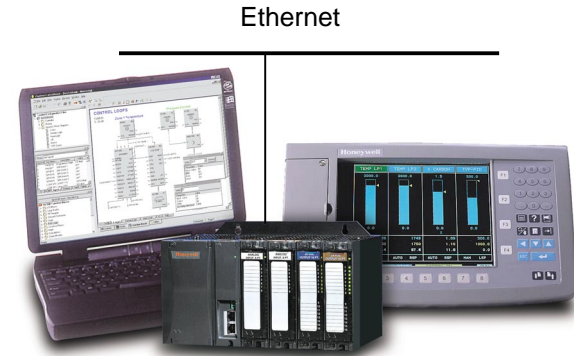

Figure 2: HC900 Hybrid Controller, Model 1042 OI and Hybrid Control Designer Software
The HC900 as shown in Figure 2 consists of a panel mounted controller, available in 3 rack sizes along with remote I/O racks, connected to a dedicated Operator Interface (OI).